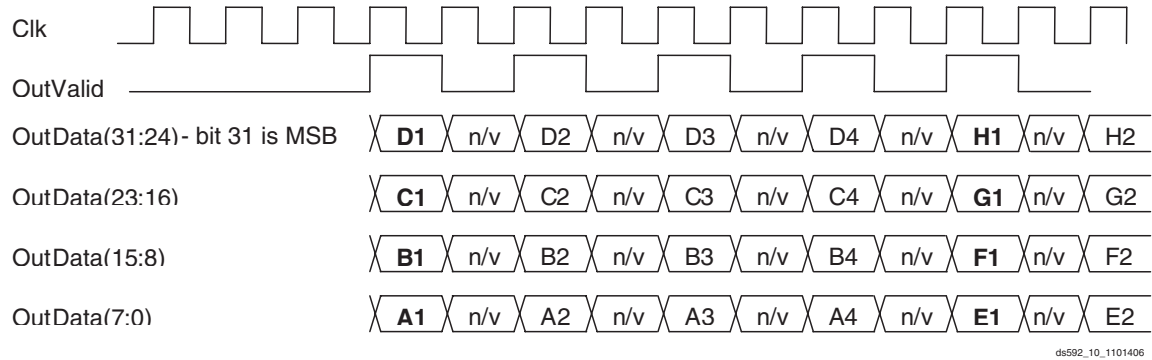
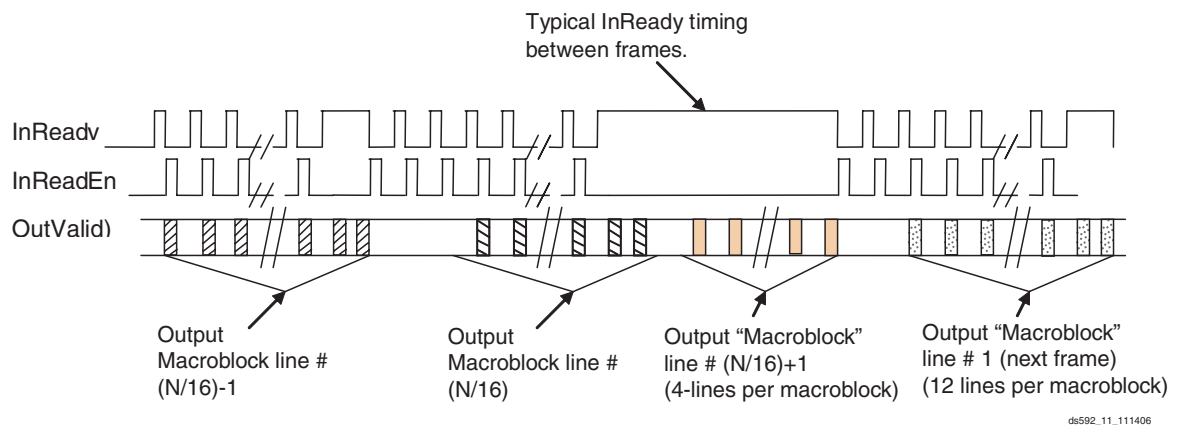

Figure 10: Output Timing (pixel-by-pixel)
Figure 11: Output Timing (line-by-line)
The luma (Y) component of the current output macroblock will be entirely passed out from the deblocker before moving to the next component. This is followed by the Cr component of the same macroblock and finally Cb. Four adjacent input pixel samples are presented on the output bus in parallel and are valid for just one clock cycle, indicated by OutValid. Outvalid validates output values an alternate clock cycles as shown in Figure 10. For 4:2:0, one complete macroblock requires $((256 + 64 + 64)/4) * 2 = 192$ clock cycles to be given completely at the output.
The order of the data output is partially transposed in comparison to the input. For an output macroblock of the format given in Figure 6, the output data schedule is shown in Figure 10.
Output data will be read from the output FIFO interface in the order shown in Figure 10 and Figure 11. A full macroblock for 4:2:0 requires $(64 Y + 16 Cr + 16 Cb =) 96$ read operations on this FIFO interface.